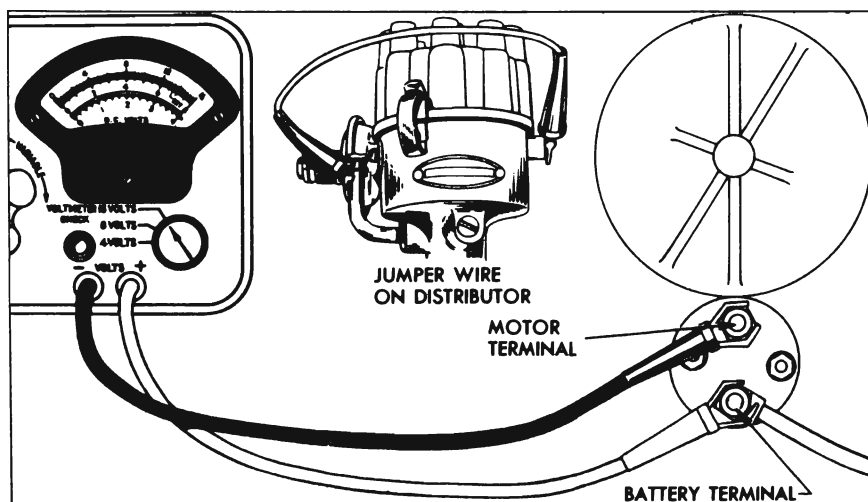

Figure 10-33—Solenoid Switch Contact Test Connections
6. With voltmeter switch turned to any scale above 12 volts, connect voltmeter negative (—) lead to the motor terminal of solenoid switch, and connect positive (+) lead to battery terminal of switch. See figure 10-33.